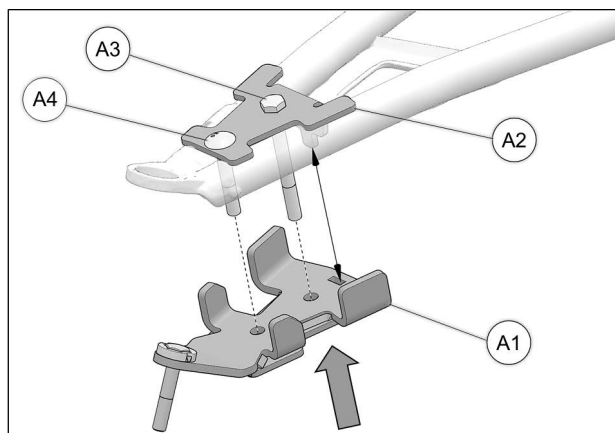

Fig. 15
6. Position bottom part of anchor bracket assembly (A1) under lower suspension arm. Pull bracket (A1) up over bolts (A3) and (A4) already installed in cover (A2). Refer to Fig. 15